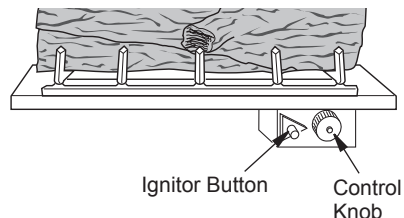

Figure 28 - Control Knob and Ignitor Button Location
3. Turn control knob clockwise to the OFF position (see Figure 28).
4. Wait five (5) minutes to clear out any gas. Then smell for gas, including near the floor. If you smell gas, STOP! Follow "B" in the safety information, column 1. If you don't smell gas, go to the next step.
5. Turn control knob counterclockwise to the PILOT position. Press in control knob for five (5) seconds (see Figure 28).